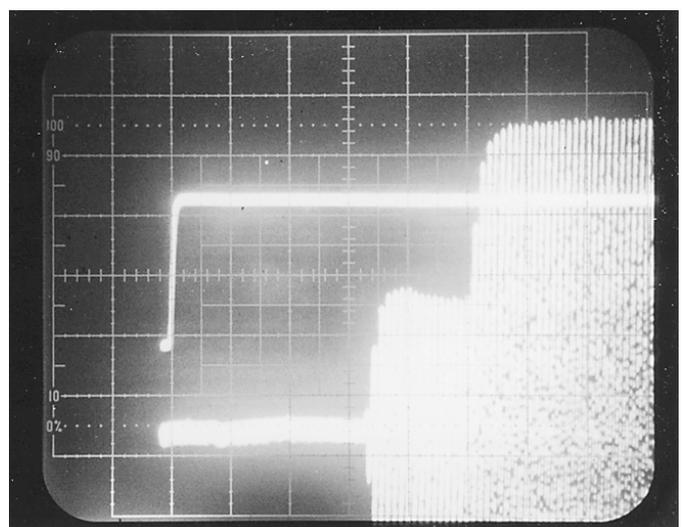

Fig. 4-9A — Oscilloscope Trace of RF Envelope
4.9.3.5 Key the transmitter and set for the maximum power as specified by the manufacturer. Unkey the transmitter and turn the keying test generator ON. Adjust the oscilloscope settings (including sweep rate) as required for an optimum display trace as shown in Fig. 4-9A. If the audio output is not visible at all on the oscilloscope it will be necessary to increase the keying test generator KEY-UP and KEY-DOWN time. Measure and record the time it takes to go from PTT key-up to 50% audio output. Set the keying test generator to OFF.